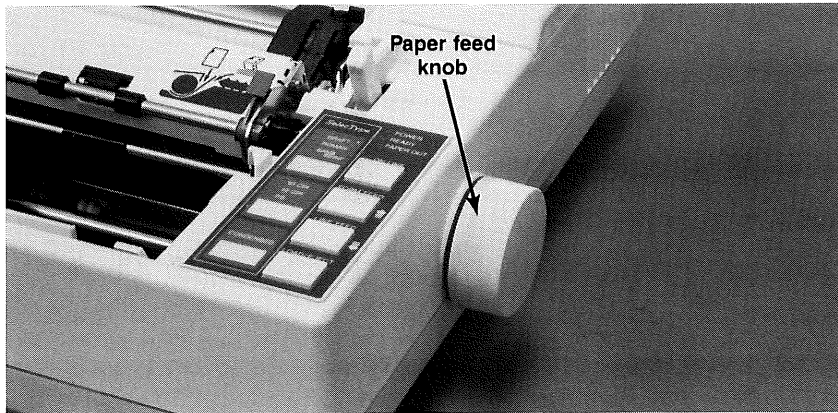

Figure A6.
6. Install the paper feed knob by pushing it onto the end of the paper roller bar. The knob will fit against the printer case. See Figure A6.